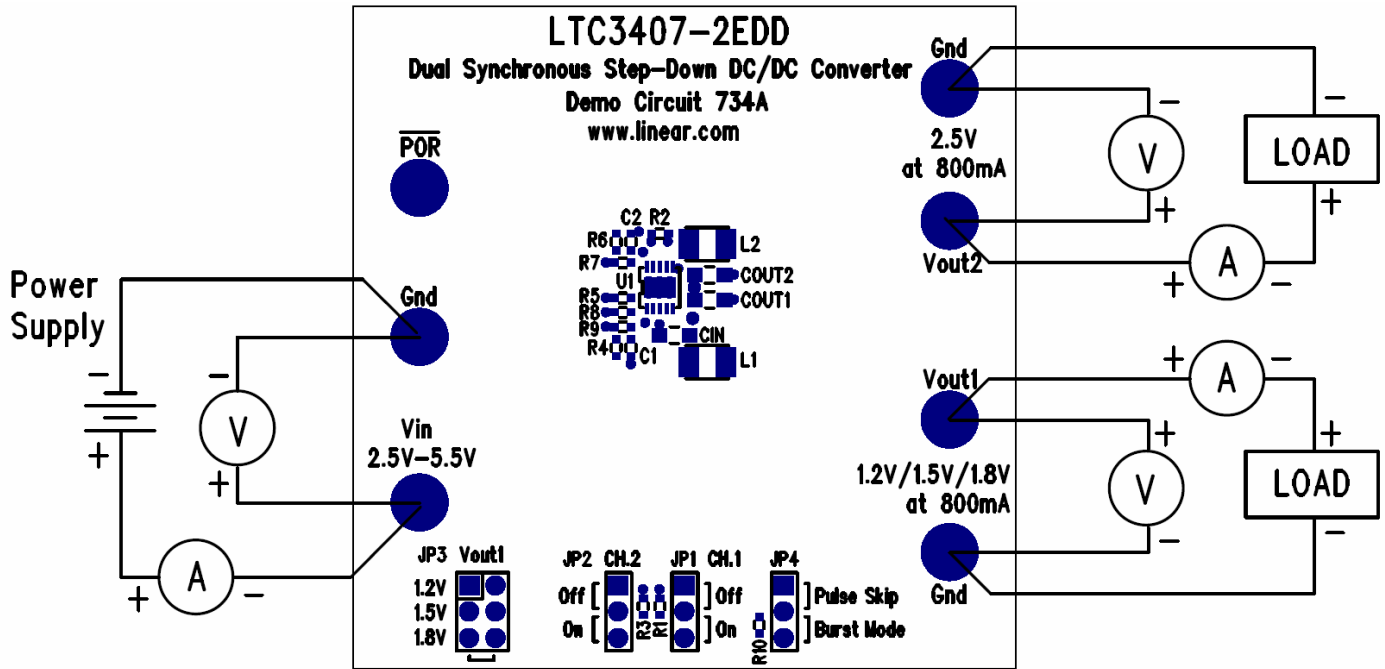

Figure 1. Proper Measurement Equipment Setup
Demonstration circuit 734 is easy to set up to evaluate the performance of the LTC3407-2. Refer to Figure 1 for proper measurement equipment setup and follow the procedure below.
1. Connect the input power supply to the Vin and GND terminals on the left-side of the board. Do not hot-plug Vin or increase Vin over the rated maximum supply voltage of 5.5V, or the part may be damaged. Connect the loads between the Vout and GND terminals on the right-side of the board. Refer to Figure 1 for the proper measurement equipment setup.